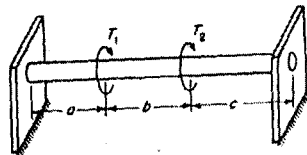

Fig. Q3
3. (a) A prismatic shaft of diameter d has built in ends and is subjected to the action of the externally applied twisting moments T_1 & T_2 as shown in fig Q3 . Find the internal torques T_a , T_b & T_c in three portions a, b, c of the shaft. The following numerical data are given $a = 75 \text{ cm}$, $b = 125 \text{ cm}$, $c = 100 \text{ cm}$, $T_1 = 12000 \text{ kg-cm}$ $T_2 = 24000 \text{ kg-cm}$. ($G = 84 \times 10^4 \text{ kg/cm}^2$)